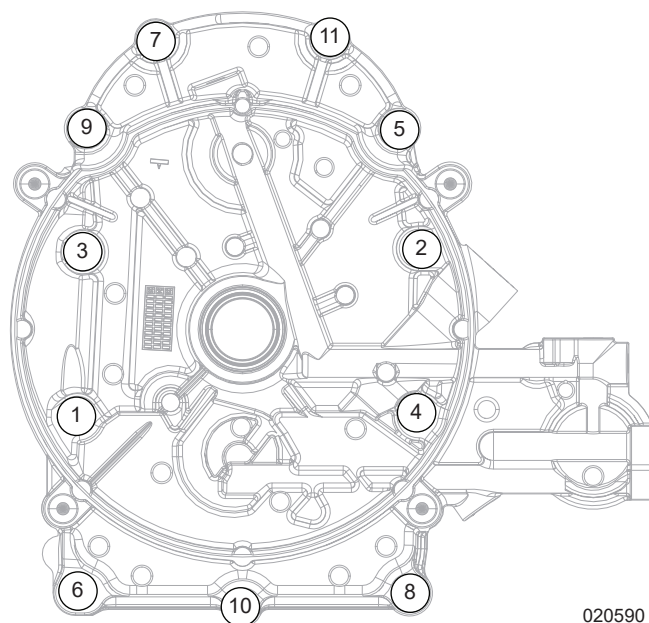

Figure 8-2. Gear Cover Torque Sequence
2. See Figure 8-2. Check gear cover torque using the correct sequence shown. Final torque on gear cover is 32.4–39.6 ft-lb (43.9–53.7 Nm).